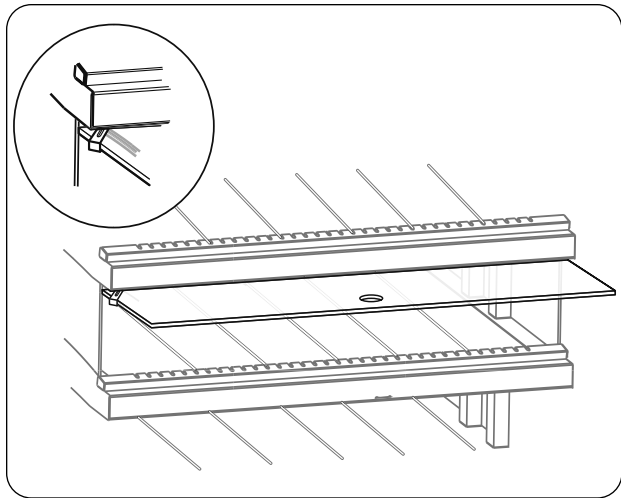

Figure 12. Flip-Up Doors with Bracket
6. When loading/unloading product, use bracket to hold flip-up door in the open position. (See Figure 12.)